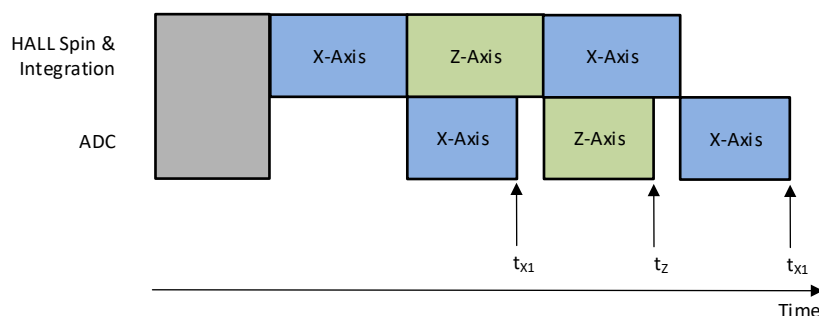

图 8-3. XZX Magnetic Field Conversion
In absolute angle measurement, application sensor data from multiple axes are required to calculate an accurate angle. The magnetic field data collected at different times through the same signal chain introduces error in angle calculation. The TMA5170 offers pseudo-simultaneous sampling data collection modes to eliminate this error. 图 8-3 shows an example where MAG_CH_EN is set at 1101b to collect XZX data. 式 14 shows that the time stamps for the X and Z sensor data are the same.
- t_{x1} , t_z , t_{x2} are time stamps for X, Z, X sensor data completion as defined in 图 8-3.